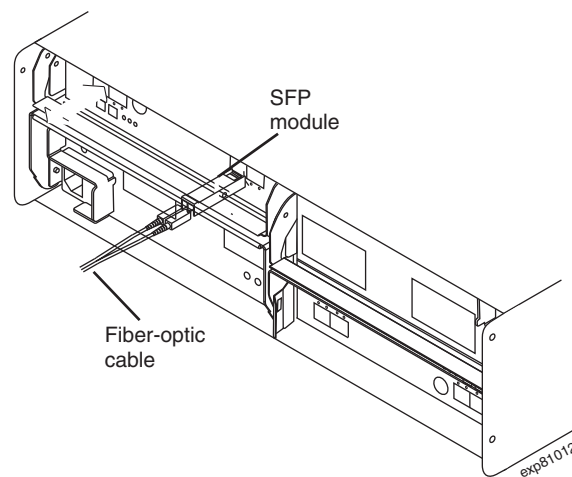

Figure 33. Installing an SFP module and connecting an LC-LC cable to the EXP810
3. Install an SFP module in the SFP port on the back of the EXP810; then, connect the other end of the LC-LC cable into the SFP module, as shown in Figure 33.